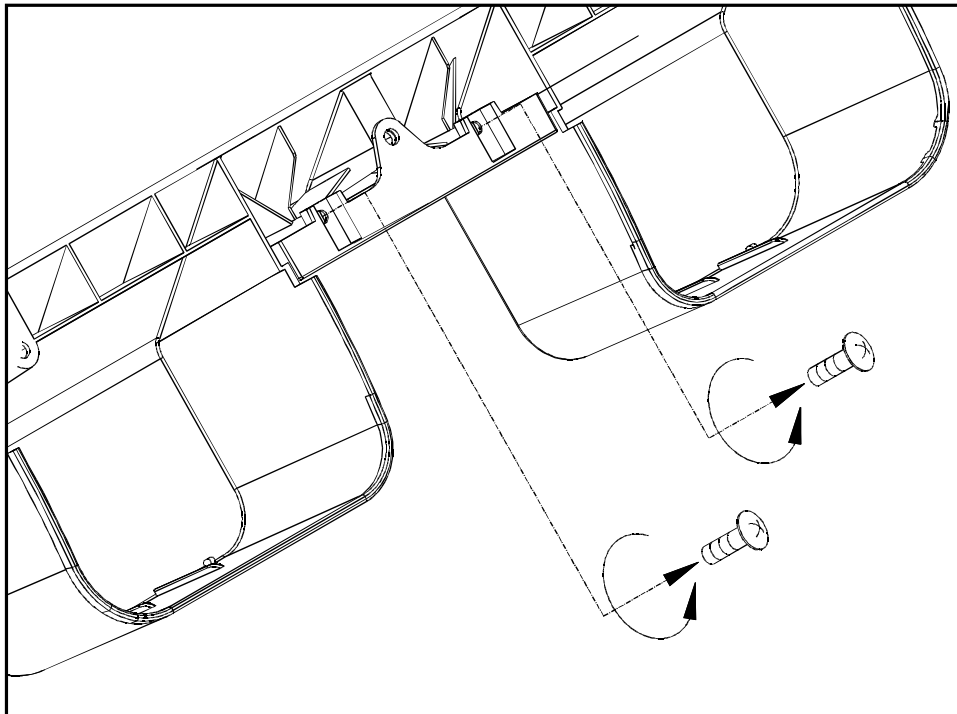

Fig.9
(1) Loosen and take off the shelter. (see Fig.9)